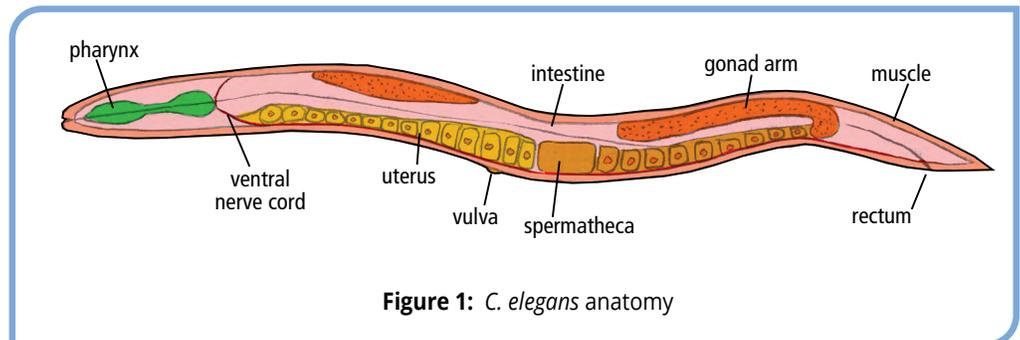
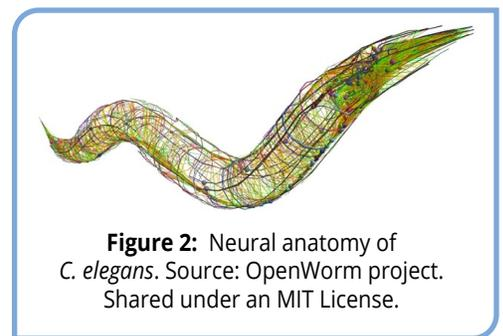

Figure 1: *C. elegans* anatomy
Figure 2: Neural anatomy of *C. elegans*. Source: OpenWorm project. Shared under an MIT License.
*C. elegans* is a free-living, non-parasitic nematode that lives in temperate soil, where it feeds on microbes that are found in decaying organic matter. Adult worms measure approximately one millimeter (mm) in length. The outer cuticle of *C. elegans* is transparent, making it easy to visualize the growth and development of internal structures like the pharynx, the intestine, the gonads and the muscles (Figure 1). The worm also has an extensive nervous system - in fact, the nervous system comprises almost 1/3 of the worm's 959 somatic cells (Figure 2)!
Each neuron within *C. elegans* has a defined role, shape, and position. Moreover, these features are invariant – they are the same between individuals of different populations and generations. Over the last 30 years scientists have determined the locations of every neurons as well as the roughly 7,000 connections between them. This has been translated into a comprehensive neural map, or connectome (Figure 2). Investigators have also classified each neuron by task: (1) sensory neurons that collect information from the environment, (2) motor neurons that control muscles, and (3) interneurons that connect sensory and motor neurons. While all three neural types are involved in chemotaxis, most research has focused on the biology of sensory neurons.